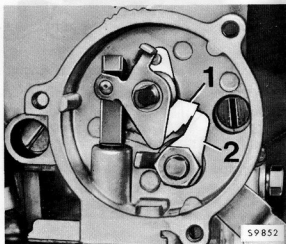

Fig. 13.50 Fast idle cam (Solex 32/32 DIDTA) (Sec 8)
- 64 When adjusting fast idling, the fast idle lever should be on the top step of the fast idle cam (Fig. 13.50) and the top edge of the lever should align with the centre of the cam step as shown.